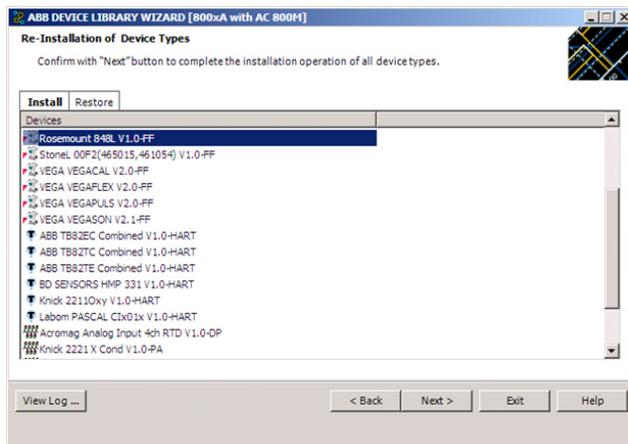

Figure 29. Re-install Device Types Dialog Box
- When the extraction process is completed successfully, the Device Types need to be re-installed on the 800xA System node. Click **Next** to launch the Re-installation of Device Types dialog box shown in Figure 29.